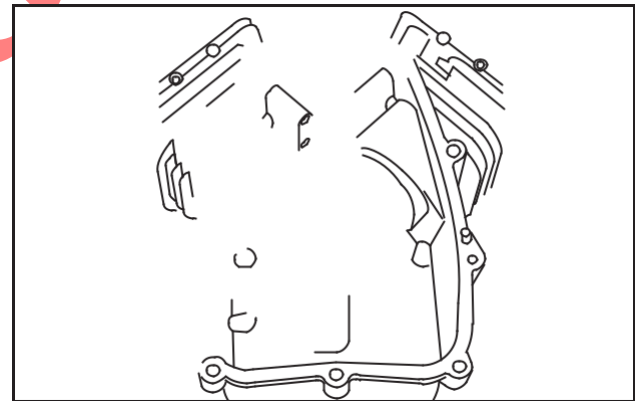

Fig. 4 - Torque Connecting Rods
4. Assemble connecting rod cap to rod with match marks aligned, Fig. 4.